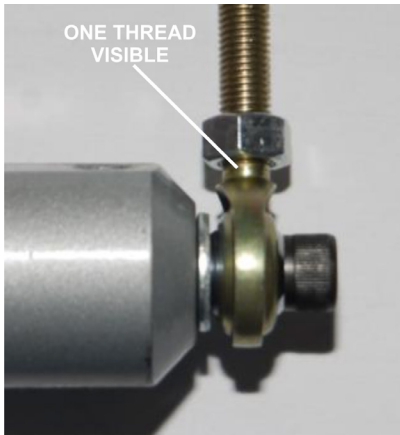

Figure 44. Visible Thread
- a. Verify at least 1 thread is visible below lower bolt on all heim joints (Figure 44).